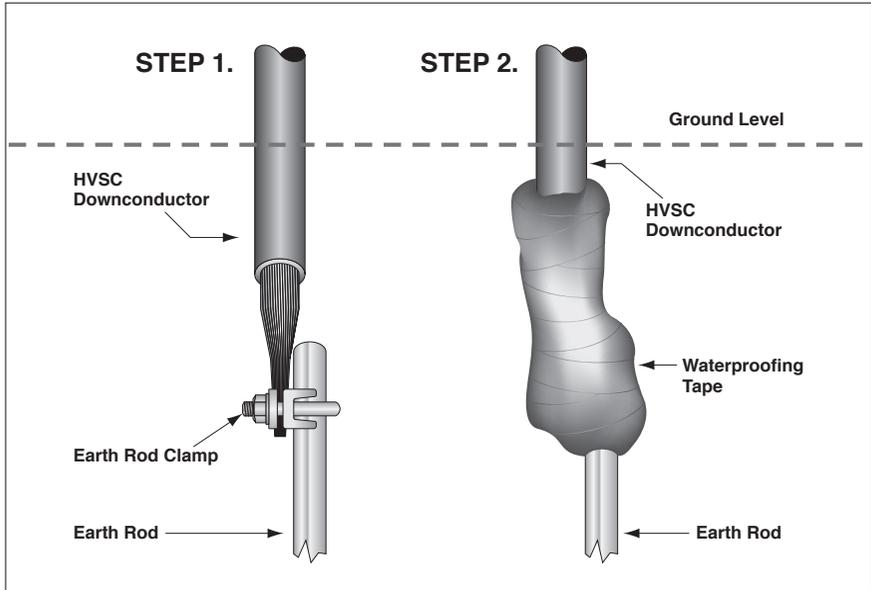

Figure 21.
- Bunch together both inner and outer screen conductors. If connecting directly to the earth system as per figure 21, the bunched conductors should be connected to the earth rod clamp and the clamp tightened holding the conductors firmly in place. To avoid oxidation of this connection, seal it using the waterproofing tape as provided in the kit.